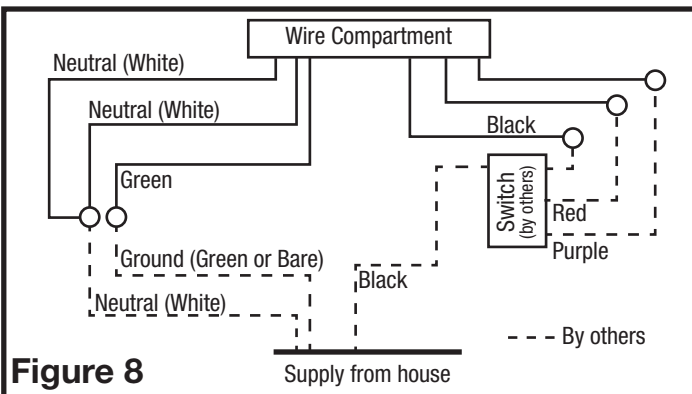

Figure 8
2. Secure the electrical wires to the housing with an approved electrical connector. Connect the White wires of the fan to the White (Neutral) wire from the power source. Connect the ground wire from the house to the green wire from the fan housing. Using a properly grounded three function switch (not included) connect the Black wire from the supply to the switch. Connect the Black wire (fan) from the fan housing to one of the terminals on the switch. Connect the Red wire (light) from the fan housing to a separate terminal on the switch. Connect the Purple wire (night light) from the fan housing to a separate terminal on the switch (**Figure 8**). Use approved methods for all connections.